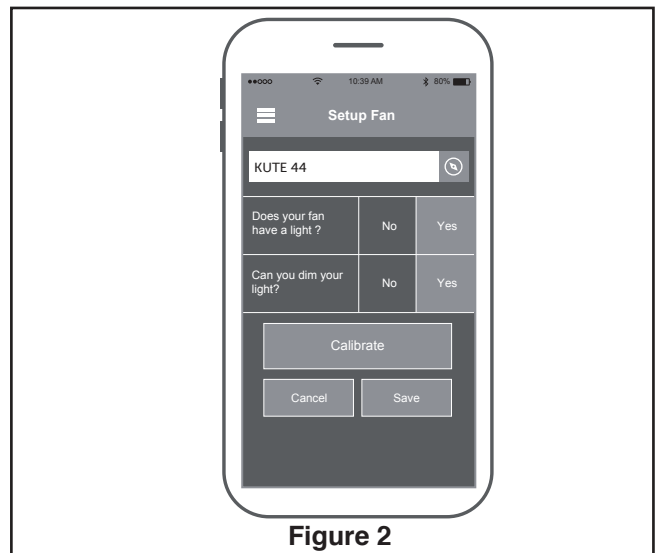

Figure 2
- 2. Name your fan, answer light questions, choose save and your fan will be ready to operate. (Figure 2)